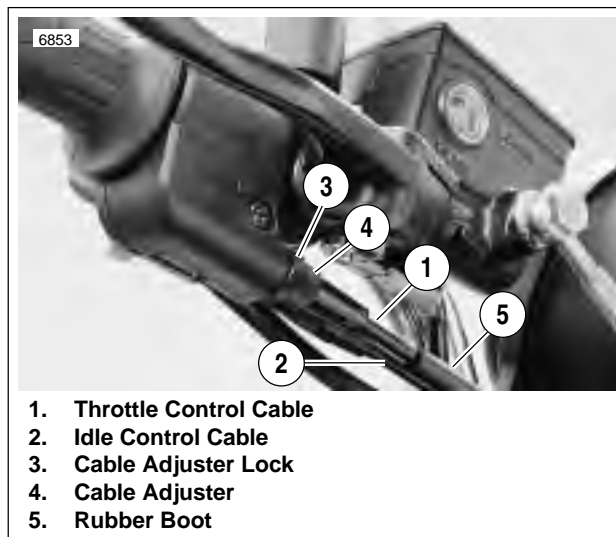

Figure 2-91. Throttle Control Cables
1. See Figure 2-91. Slide rubber boot (5) off the cable adjusters (4). Loosen cable adjuster lock (3) on each adjuster.